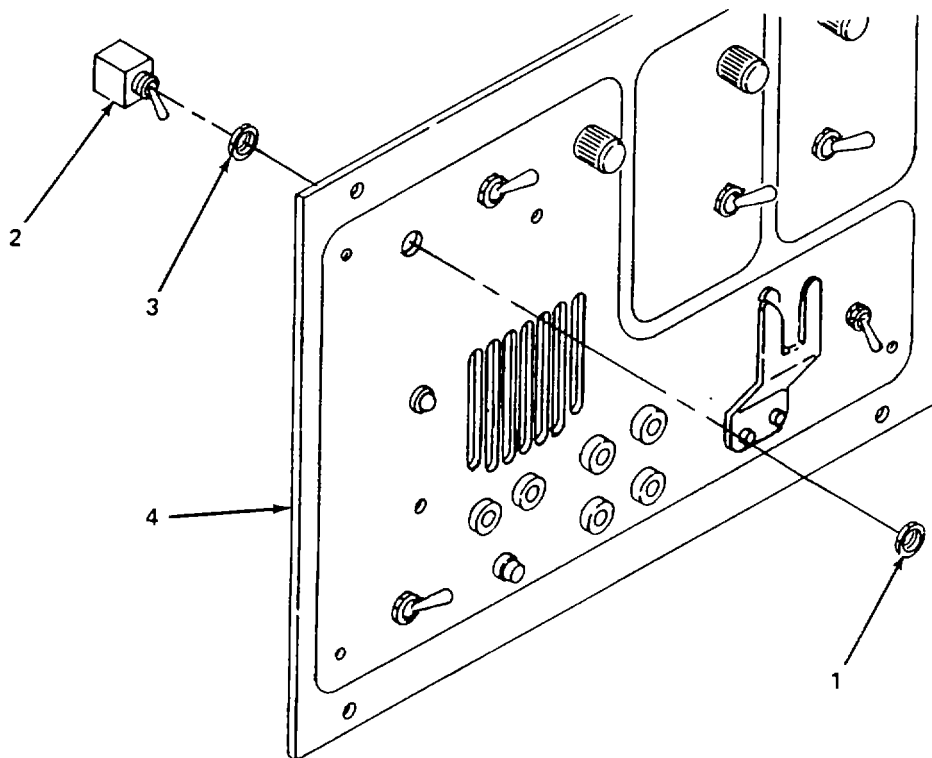

Figure 5-32. Front Panel Chassis Assembly Switch, Replace.
(1) *Replace switch.* (figure 5-32)